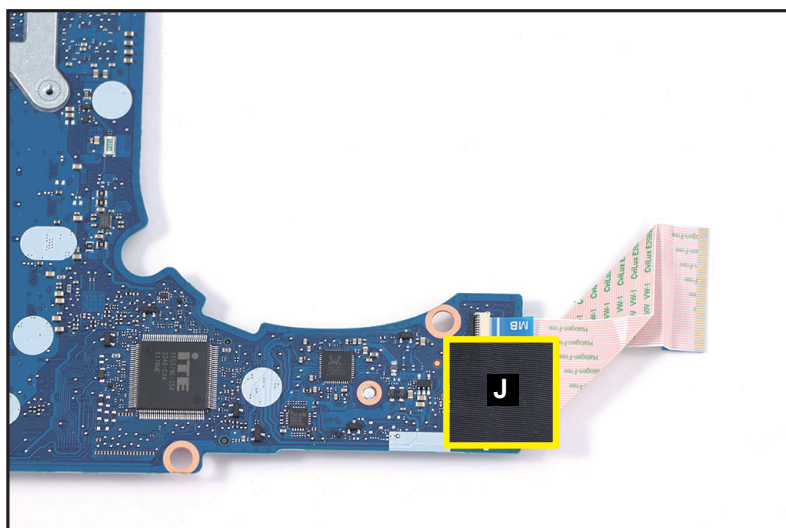

Figure 1-35. Mainboard Removal
13. Detach the acetate tape (J) from the USB board FFC (Figure 1-35).